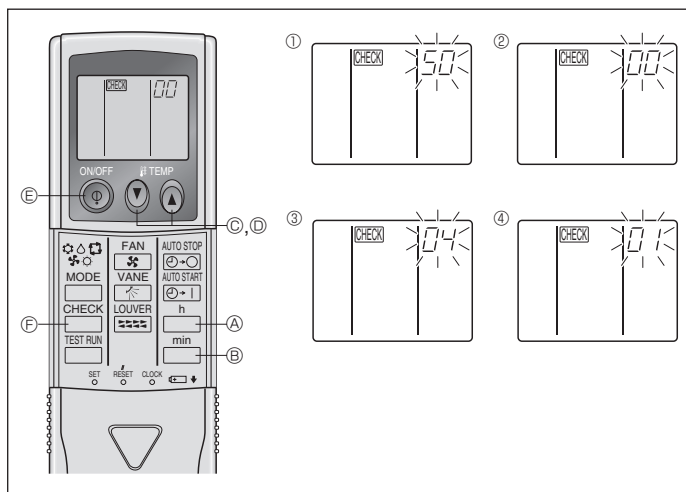

Fig. 6-15
2) For IR wireless remote controller (Fig. 6-15)